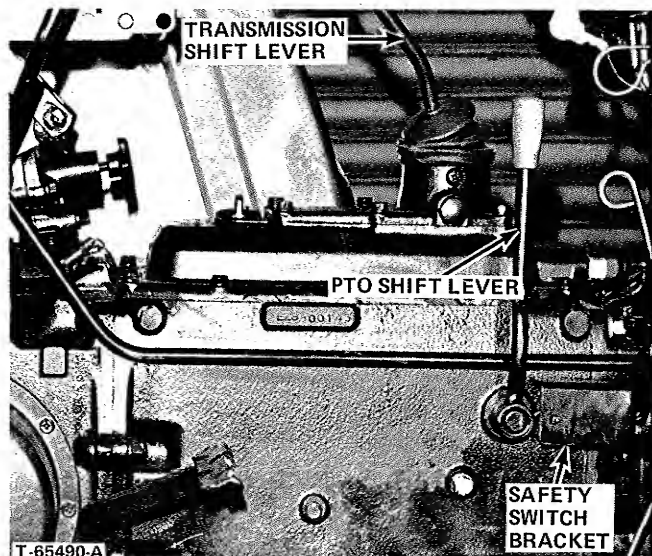

FIGURE 34B - PTO Shift Lever - R.H. Side Tractor
P.T.O. SHIFT LEVER (Figure 34B)
NOTE: If tractor engine fails to start with P.T.O. shift lever in the disengaged position it may become necessary to adjust the safety switch bracket forward, the safety switch bracket is located to the front of the P.T.O. shift lever on R.H. side of tractor transmission housing. - Figure 34B.